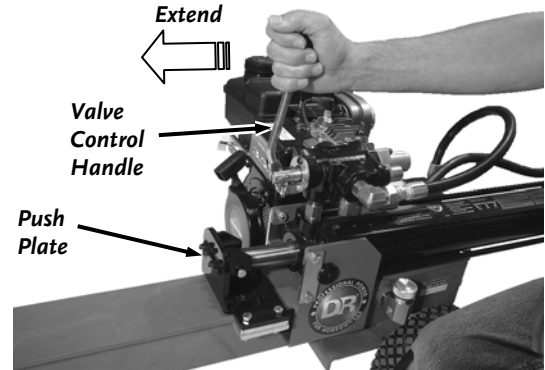

Figure 19
13. Push the Valve Control Handle, with one hand, to the forward (extend) position (towards the front of the cylinder) (**Figure 19**).